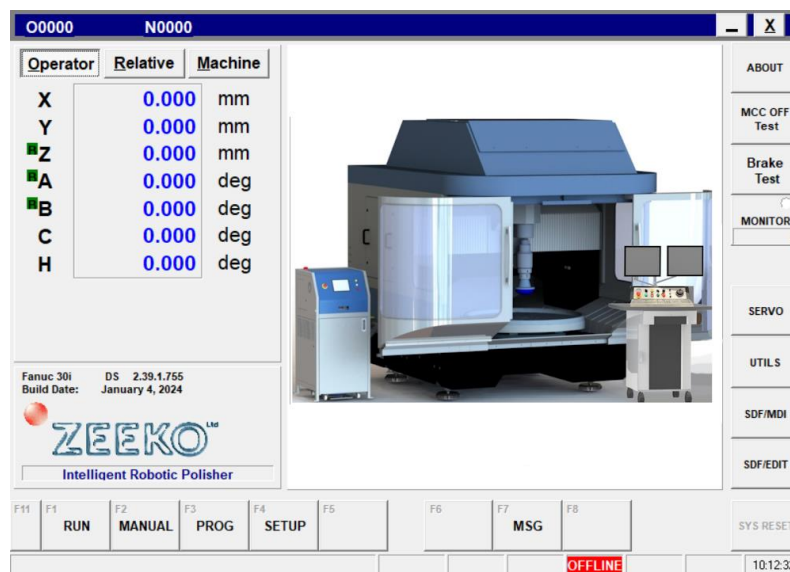

Figure 13 - Zeeko GUI Main Menu
3. On the control panel, press the CNC “Drives ON” switch. See (Figure 13 - CNC Drives ON switch).